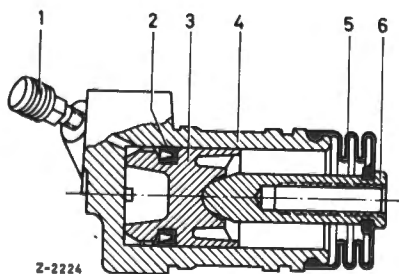

Fig. 29-4/4
1. Originally the extraction cylinder was fastened to the clutch housing (2) by means of hexagon screws (1) (Fig. 29-4/7). If on cars of this type the thread in the clutch housing has been damaged, Heli-Coil threaded adapters M 8 × 12 can be inserted instead. On new models the extraction cylinder is fastened to the clutch housing by means of two stud bolts (1) (Fig. 29-4/8).
Note: On Model 300 SE with mechanical transmission the extraction cylinder is attached to the clutch housing by means of a snap ring (13). The noses of the snap ring, which are under slight tension, must point towards the clutch housing when installed (Fig. 29-4/9).